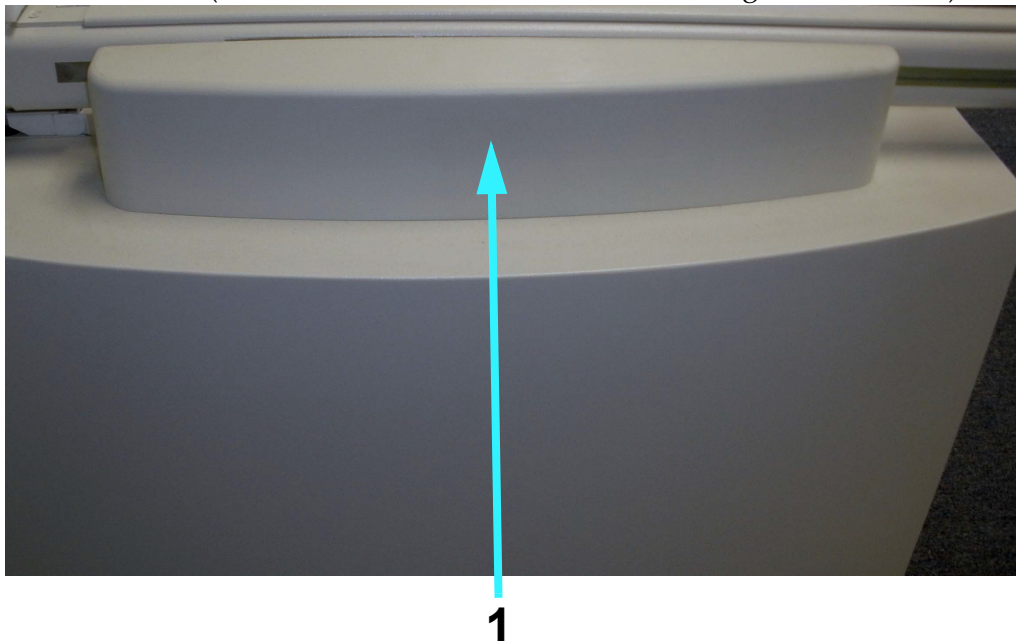

Figure 6-26. Lock Cover (Right Side Shown)
- 4 Unscrew the cover screws and remove the lock cover (1 in Figure 6-26) from the side of the table where the suspected faulty lock is located (there are two sets of locks - on left and right side of table).